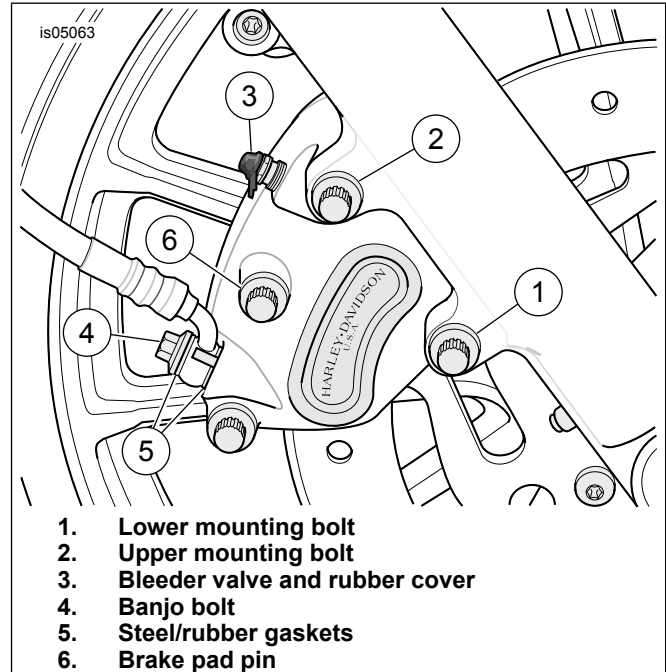

Figure 1. Remove Existing Caliper
1. See Figure 1. Remove the banjo bolt (4) and both steel/rubber gaskets (5) to detach front brake line from caliper. Retain banjo bolt. Discard gaskets.
2. Loosen but do not remove pad pin (6).
3. Remove the upper (long) (2) and lower (short) (1) mounting bolts securing caliper to fork leg. Lift caliper upward to remove from brake disc. Discard caliper and bleeder valve cover but save mounting bolts.